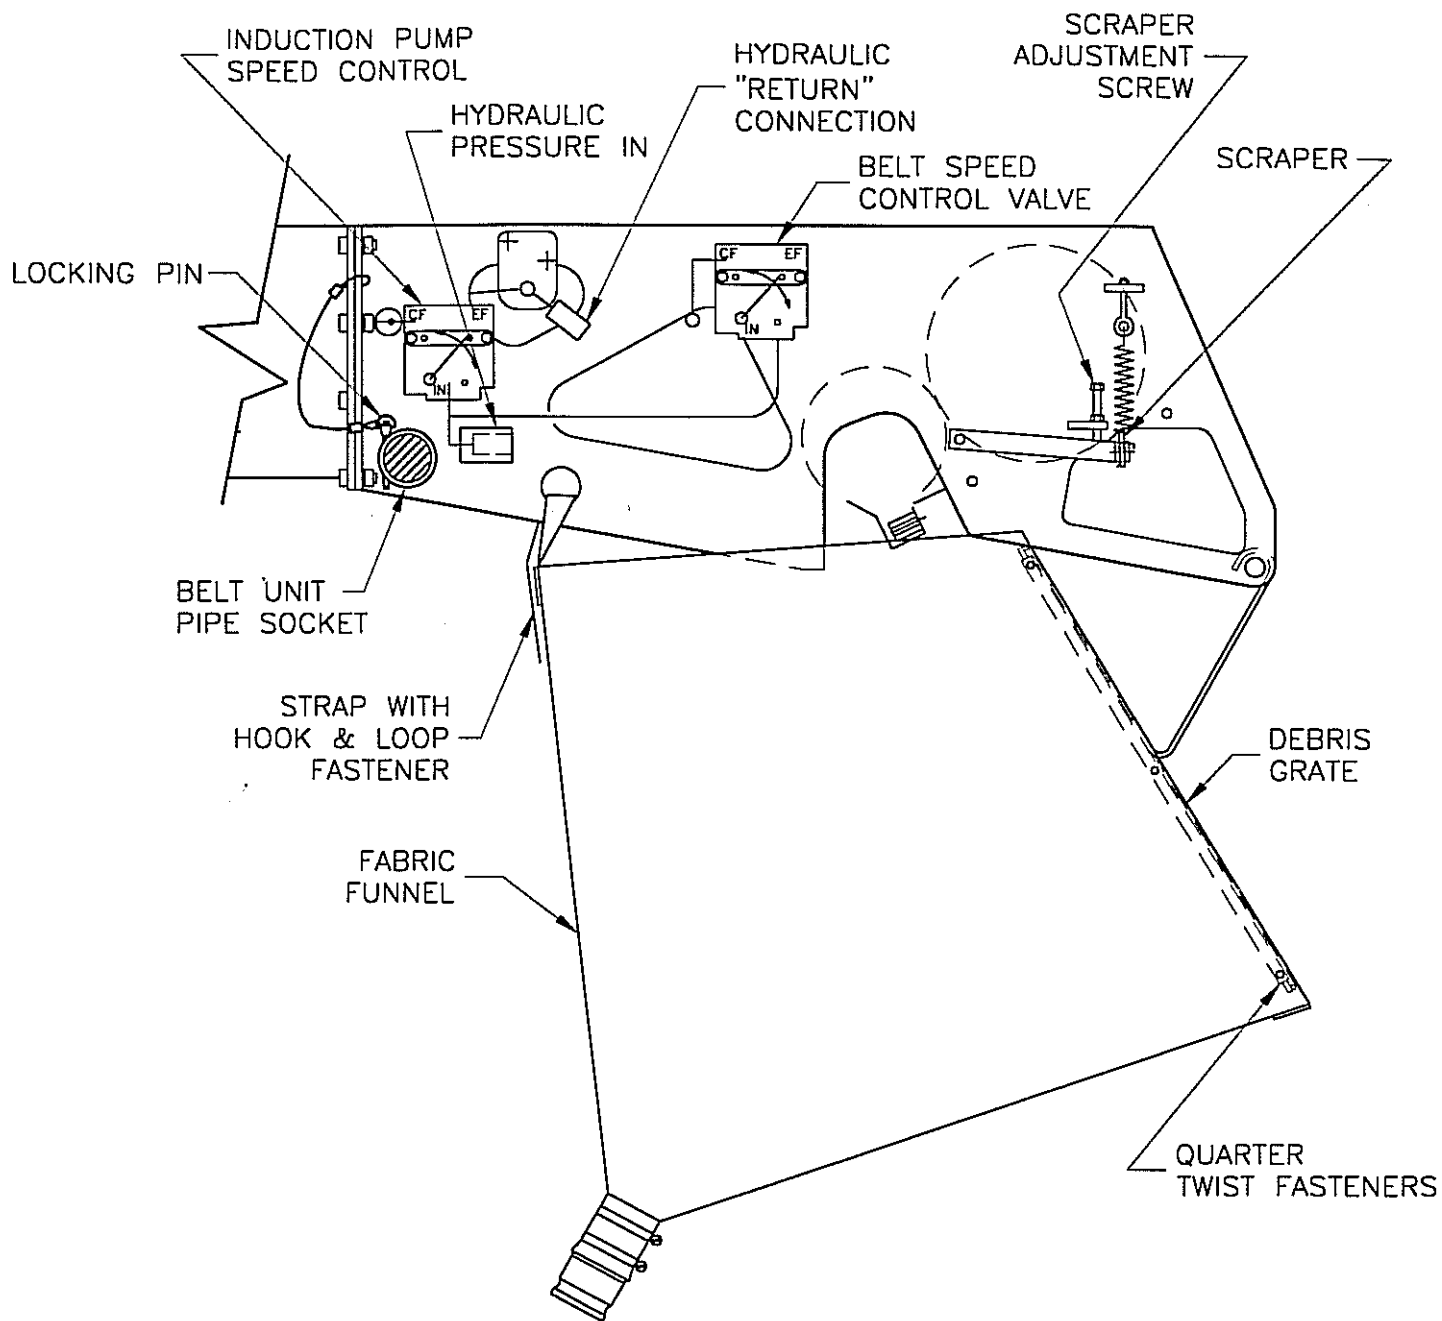

Figure 3
2. Using the davit block and tackle, lift the SIDEWINDER to approximately the height of the swing arm. Maneuver the unit until the pintle on the pivot arm slides into the belt unit pipe socket near the induction pump control valve on the belt unit (see Figure 3). Insert the lock pin attached to the belt unit into the hole on the side of the pipe socket to secure the belt unit to the davit arm. The button on the top of the locking pin must be depressed before the pin can be inserted or removed.
3. Attach the fabric funnel to the debris grid and attach the grid to the belt unit as shown in Figure 3. Connect the supply and return hydraulic hoses to the belt unit. The female quick disconnect accepts pressurized oil, and the male quick disconnect is for return oil. Attach a transfer hose from the bottom of the funnel to a storage tank or to a transfer pump. Attach a tag line to the nose of the belt unit.
6. Start the belt rotation by using the belt speed control valve as identified in Figure 3. Start the induction pump using the induction pump control valve. Adjust the belt and induction speed to suit oil conditions. See FILTERBELT OIL RECOVERY section below.